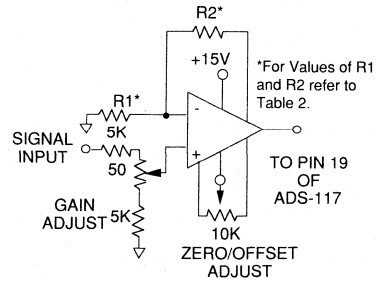
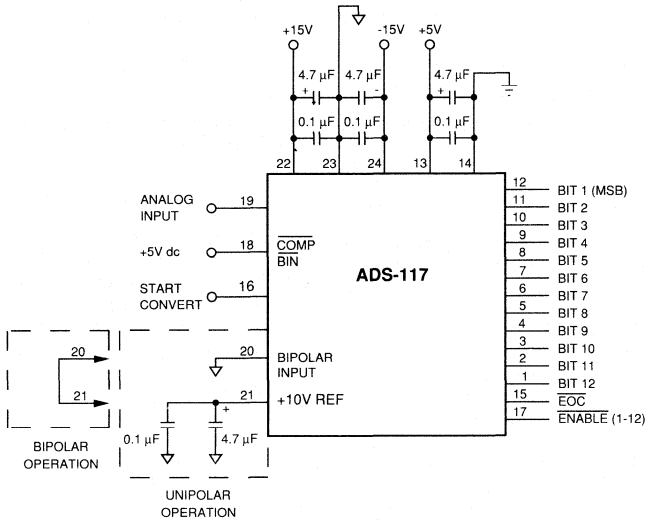

Figure 4. Optional Calibration Circuit
Figure 3. Typical ADS-117 Connection Diagram
① For ±12V, +5V operation, contact DATEL
② +5V power usage at 1 TTL logic loading per data output bit.
- Applications which are unaffected by endpoint errors or remove them through software will use the typical connections shown in Figure 3. Remove system errors or adjust the small initial errors of the ADS-117 to zero using the optional external circuitry shown in Figure 4. The external adjustment circuit has no affect on the throughput rate.
- Connect the converter per Figure 3, Figure 4, and Table 2 for the appropriate full-scale range (FSR). Apply a pulse of 150 nanoseconds to the START CONVERT input (pin 16) at